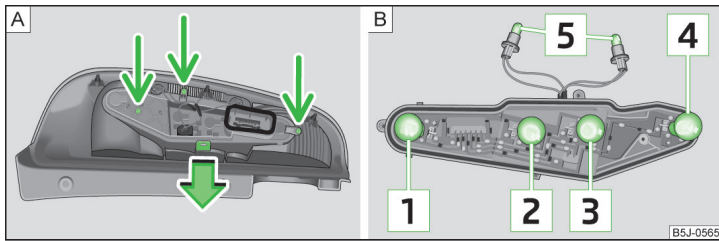

Fig. 170 Remove the middle part of the light/bulb arrangement
Bulb arrangement in the tail light » Fig. 170
- To access the bulbs, unscrew the middle of the light assembly and press off the tabs » Fig. 170 - **A**.
- Remove the faulty bulb **1**, **2**, **3** or **4** » Fig. 170 from the holder and fit a new bulb.